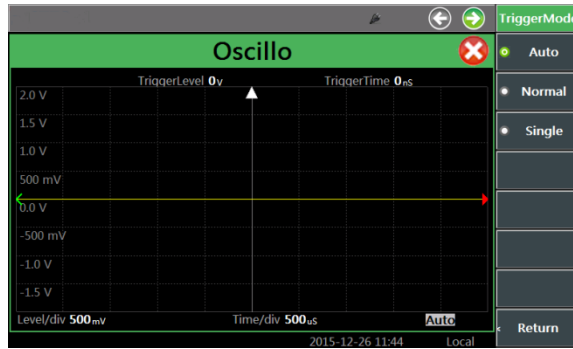

Fig. 4-40 Oscilloscope Trigger Mode Selection Window
- Click [Trigger Mode] in the right menu of the touch screen, and the window shown in Fig. 4-40 will pop up. Select the trigger mode.